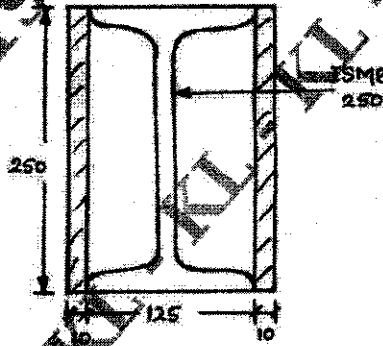

Fig.Q5(c)
- c. A built up column consists of ISMB 250@ 366N/m with two side plates 250mm × 10mm as shown in Fig.Q5(c). Compute the maximum compressive load that the column can carry, if the length of the column is 6.25m ends of columns are restrained in position at both the ends, and one end is restrained against rotation. (08 Marks)